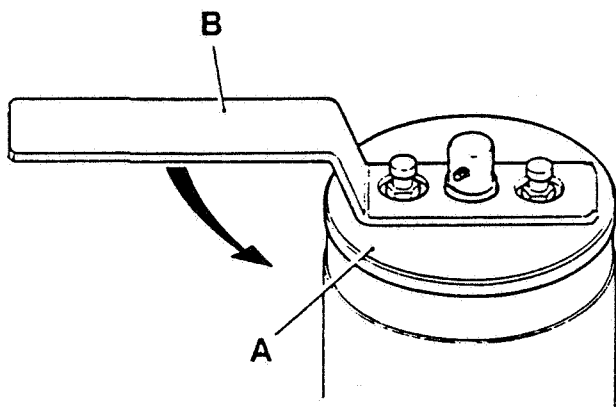

Fig. 5.4 Cartridge change
5.6.1 Cartridge change (Fig. 5.4)